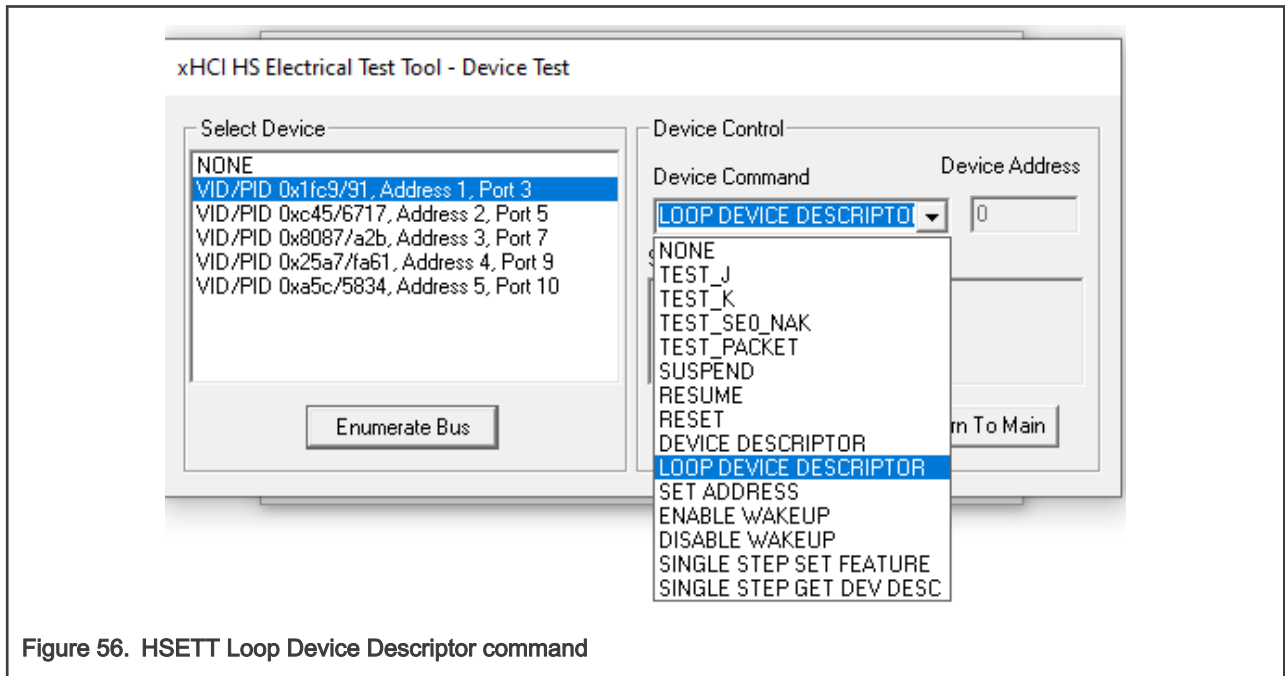

Figure 56. HSETT Loop Device Descriptor command
4. Similar to the High-Speed Signal Quality test, on the Device Test menu of the HS electrical test tool software, click **Enumerate Bus** once. Select the device under test in the device enumeration list, select **LOOP DEVICE DESCRIPTOR** from the Device Command drop-down menu, and click **Execute** once, as shown in Figure 56.